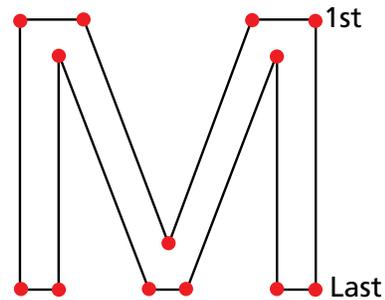

Figure 3-12
2. To generate running stitches from the bottom right corner to the top right corner, put a Mk1 at the top right corner (see Figure 3-12).
3. Now go left to the next corner and enter another Mk1 (in Figure 3-12, each dot represents a Mk1). Notice that you don't see the stitching between the current entry and the last entry. You will always be one step behind in viewing the digitizing.